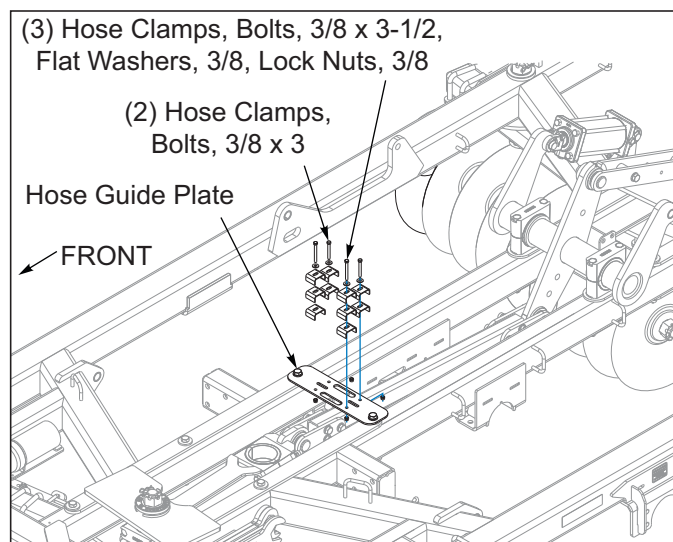

Figure 3-14: Hose Guide Plate 7531-23'-29'
7. The hose guide plate will be factory installed on models 23'-29'. Install (3) hose clamps to the front holes of hose guide plate with 3/8 x 3-1/2 bolts, 3/8 flat washers and 3/8 lock nuts **See Figure 3-14**. Install (2) hose clamps to the rear holes of hose guide plate with 3/8 x 3 bolts, 3/8 flat washers and 3/8 lock nuts. Do not tighten hose clamp bolts until hoses are run through hose clamps.